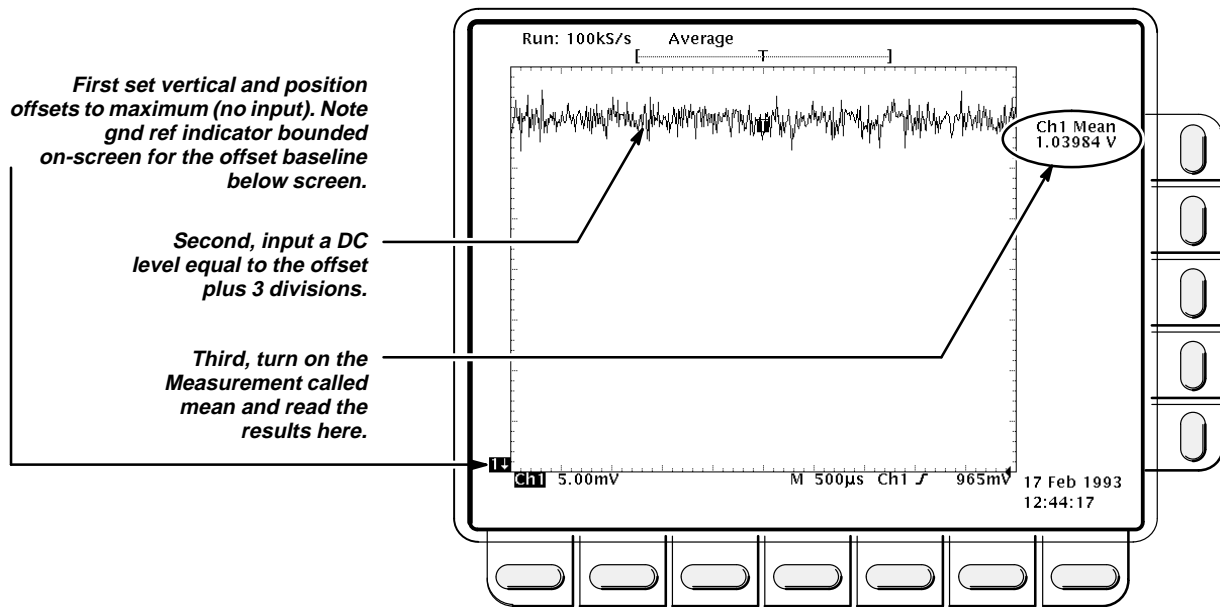

Figure 1-7: Measurement of DC Accuracy at Maximum Offset and Position
e. *Measure the test signal:* Press **CLEAR MENU**. Read the measurement results at the **Mean** measurement readout. See Figure 1-7.